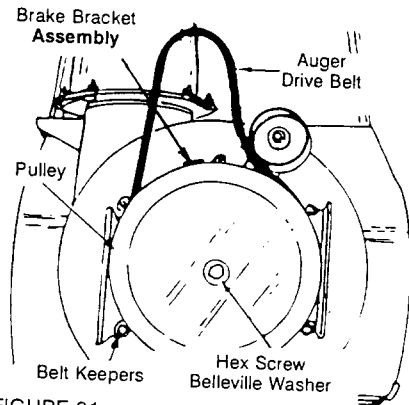

FIGURE 31
- a. Using a 1/2" wrench remove the hex screw and belleville washer from the centre of the pulley on the auger housing. Lift the brake bracket assembly out of the pulley groove and remove the pulley. See figure 31. Be careful not to lose the key.